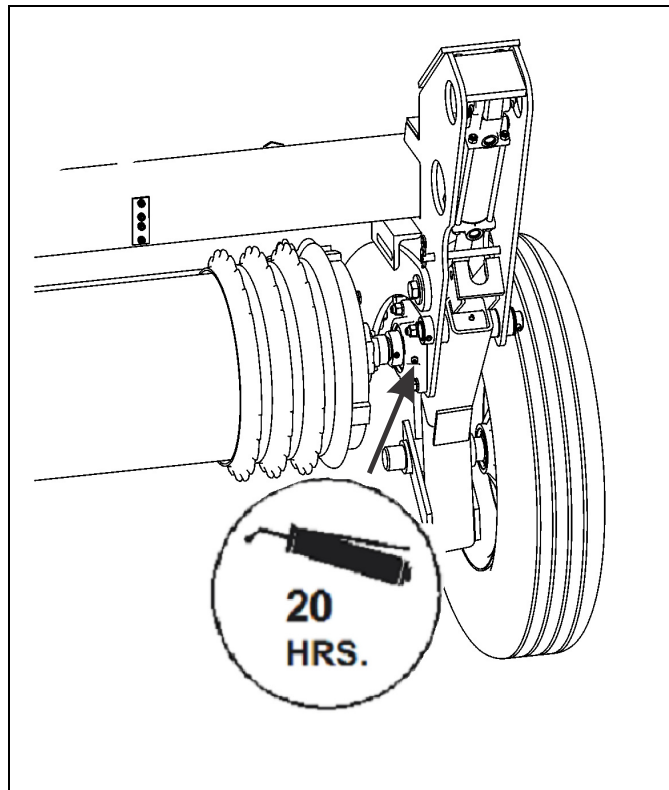

Figure 4-2: Lube Points (1 of 2)
- All machines have a grease zerk on each bearing end of the front and rear rollers. Pull type machines have a zerk on each wheel arm pivot as well. See Figures 4-2 and 4-3.